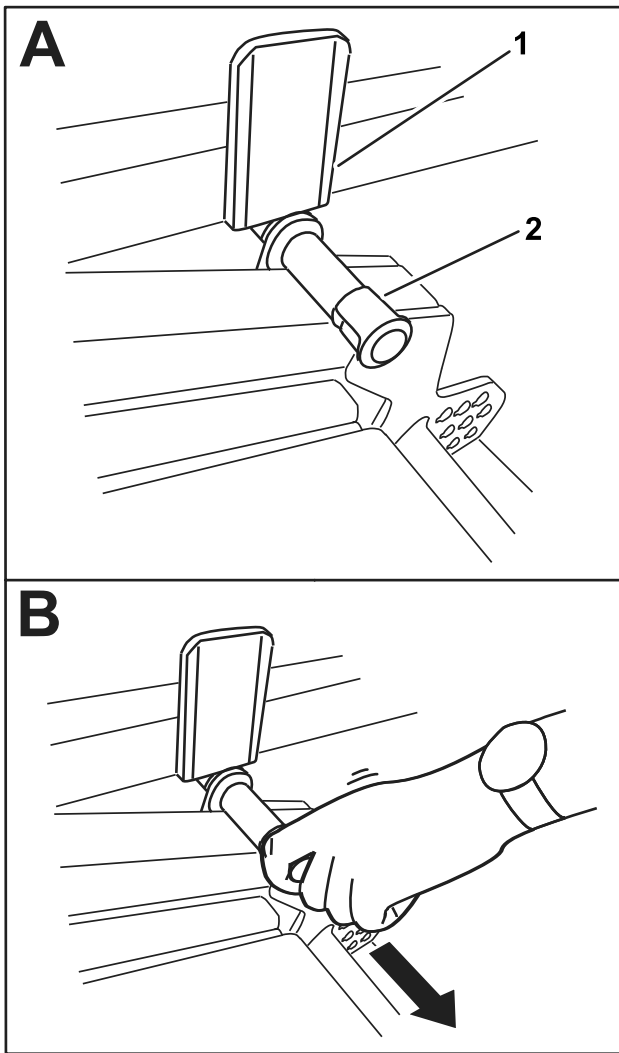

Figure 40
2. Slowly rotate the cutting unit down until the pin contacts the lift-arm plate (A in Figure 40).
3. Use your foot to press down on the cutting unit, then pull out on the pin (B in Figure 40) to let the cutting unit settle into the TRANSPORT position.